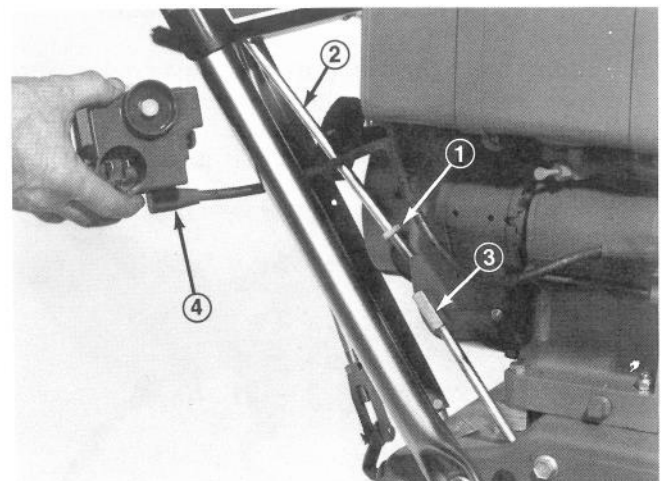

Figure 4
4. Loosen jam nut, thread R.H. wheel clutch rod out of coupling (Fig. 4), slip starter control between clutch rod and handle (Fig. 4) and install clutch rod back into coupling. Tighten jam nut to secure rod.